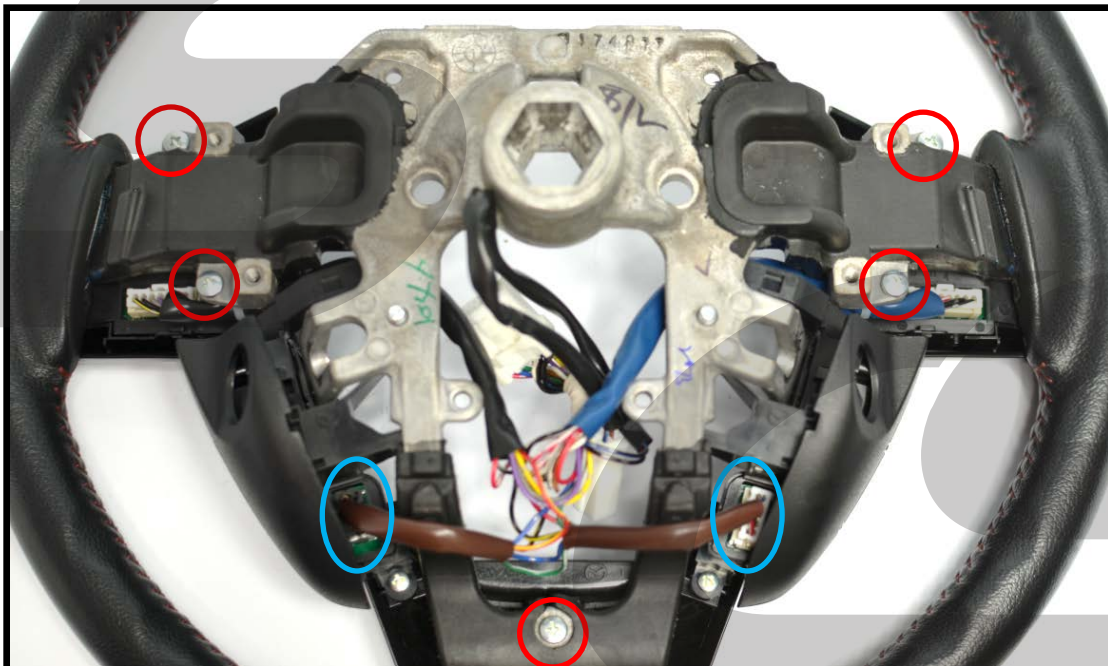

Figure 4b
- b) Disconnect the two electrical connections circled in blue in Figure 4b.
c) Remove the five screws circled in red with a #2 Phillips screwdriver. Shown in Figure 4b.